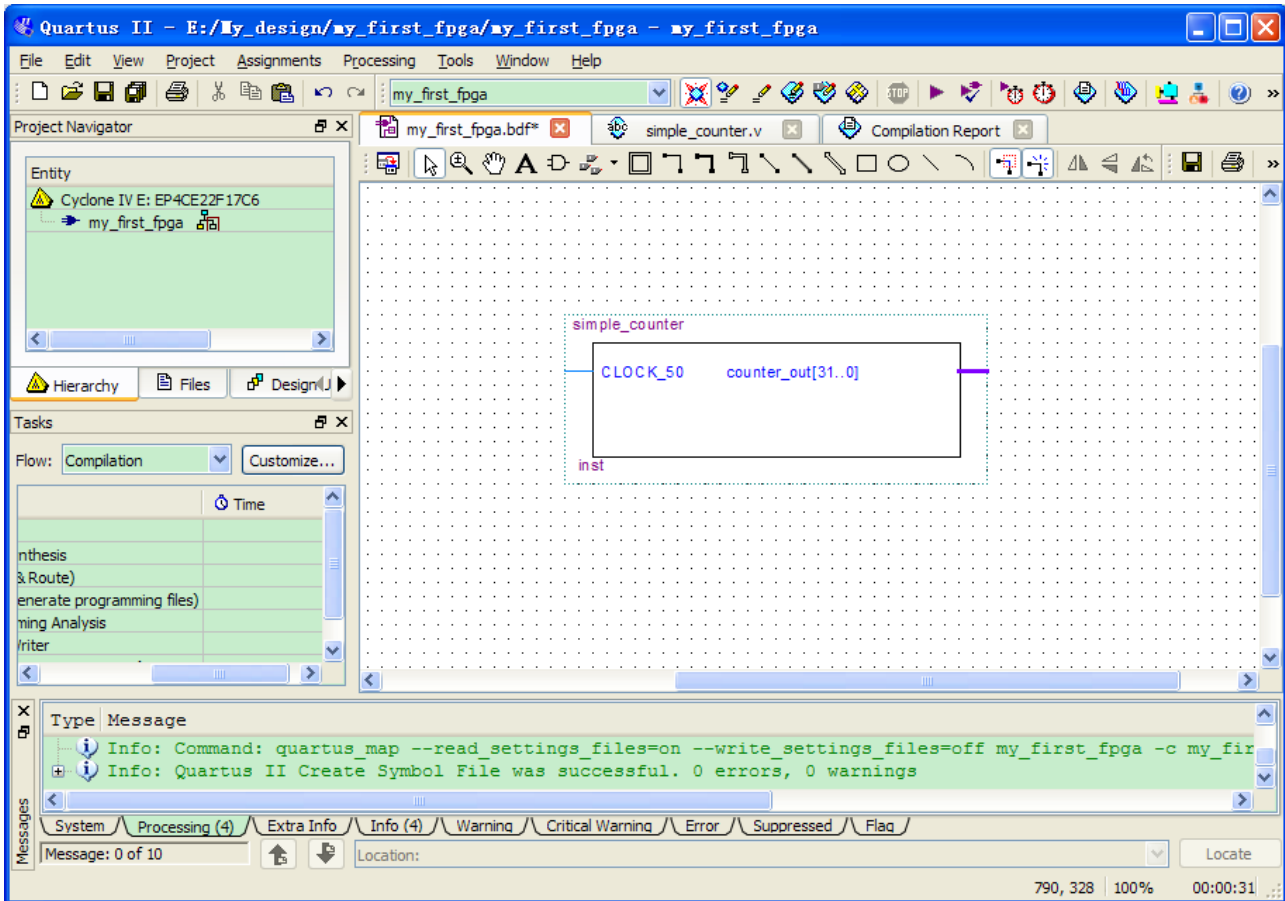

Figure 6-18 Placing the simple_counter symbol
17. Move the cursor to the BDF grid; the symbol image moves with the cursor. Click to place the simple_counter symbol onto the BDF. You can move the block after placing it by simply clicking and dragging it to where you want it and releasing the mouse button to place it. See **Figure 6-18**.